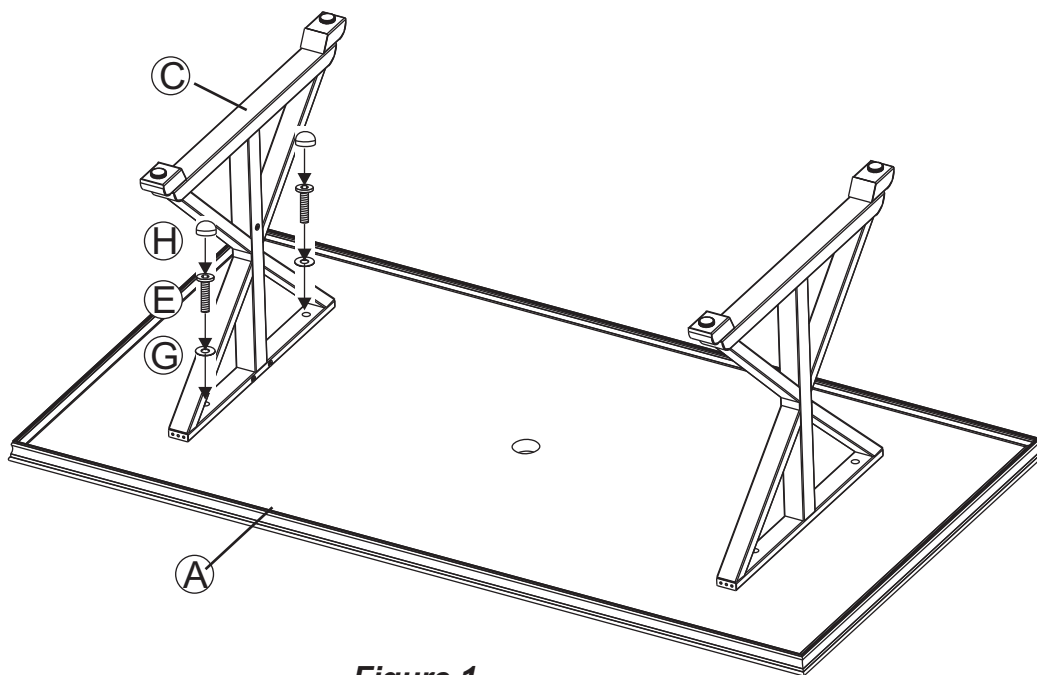

Figure 1
- 1 Place the table top upside down on a flat, non-abrasive surface. Attach a table leg to the table top by using two 1/4"x35 mm bolts and Ø20xØ6.5x2.0 mm washers as shown in the **Figure 1**. Guide the bolts through the holes in the table leg, into the pre-drilled holes in the table top. **Hand tighten 2-3 turns only.** Repeat on the other leg.
1 **Important: We recommend 2 people work together to assemble the chair.** Note the arrow labels on the "U" bar and the rocker assembly. Also note the horseshoe shape of the rocker plate. Point the open end of the horseshoe away from you. The arrows on the rocker assembly should be pointing towards you. Set the chair frame on the rocker assembly with front of the seat facing you and the arrows on the "U" bar pointing towards you as shown in **Figure 1**. This is very important for a safe, balanced rocking motion. **If chair frame has been properly positioned on the rocker assembly, all arrows on the "U" bar and rocker assembly will be pointing in the same direction.**